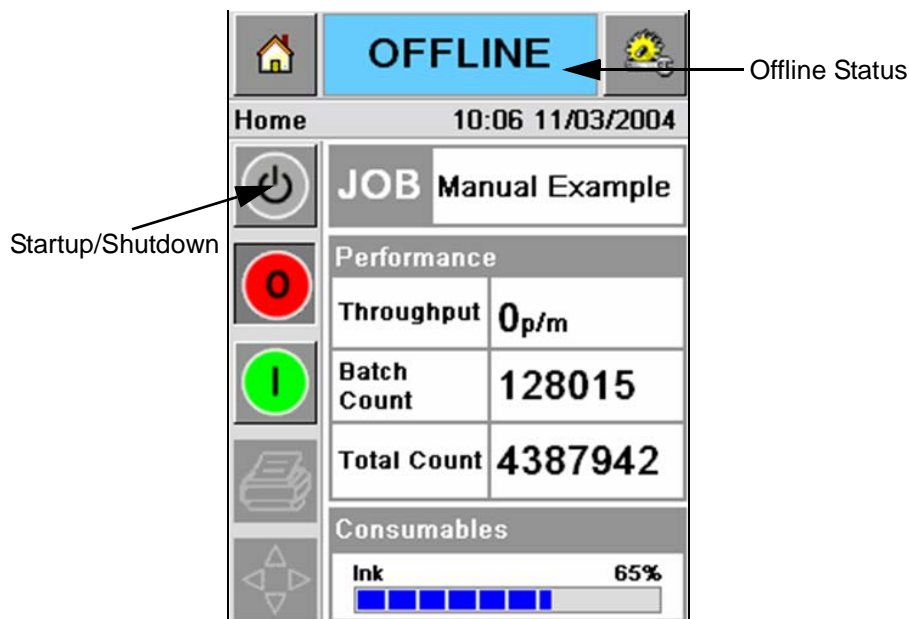

Figure 4-5: Home Screen - Offline
- The *Offline* status appears in the status window of the CLARiTY Home screen (refer to Figure 4-5).
- The *Stop* and *Run* buttons become active (Figure 4-5).